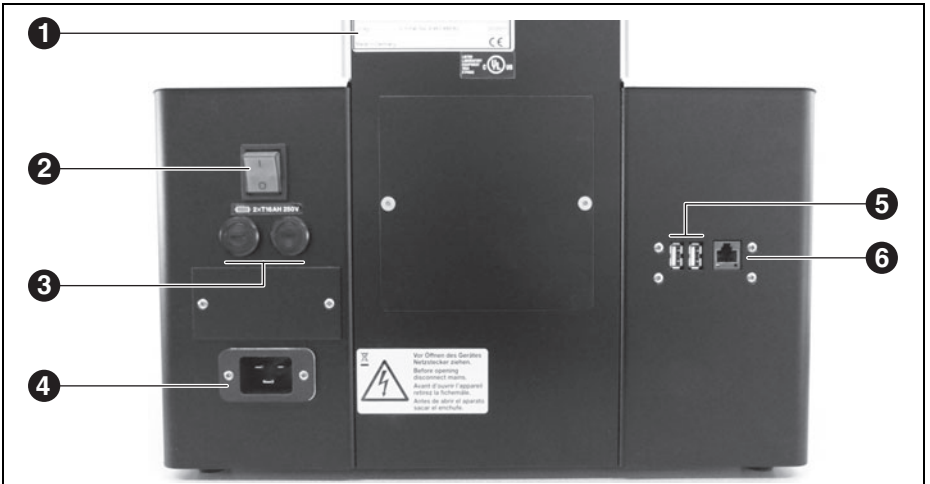

Fig. 3 Machine overview, rear
- ▷ When the furnace is to be operated via a network (Ethernet) or via a single computer: Connect network cable to the interface on the rear of the unit ([6] in Fig. 3 on page 50).